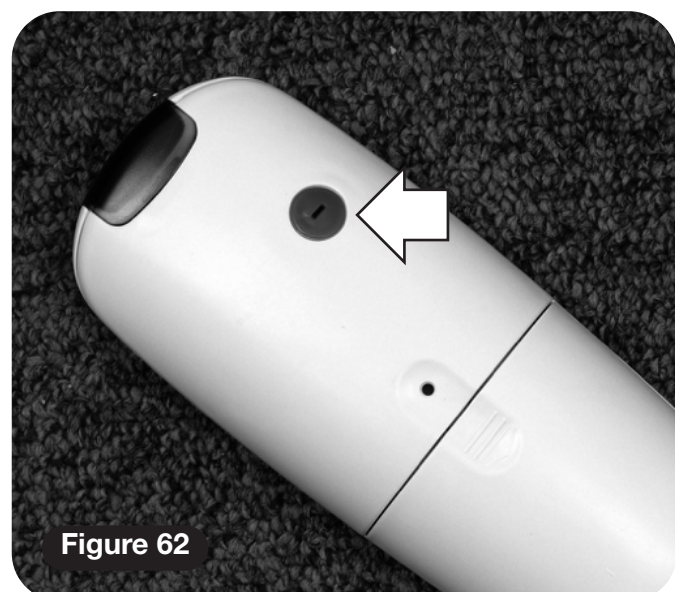

Figure 62
- i Remove the red dipswitch protection cap with a small screwdriver (**Figure 62**).